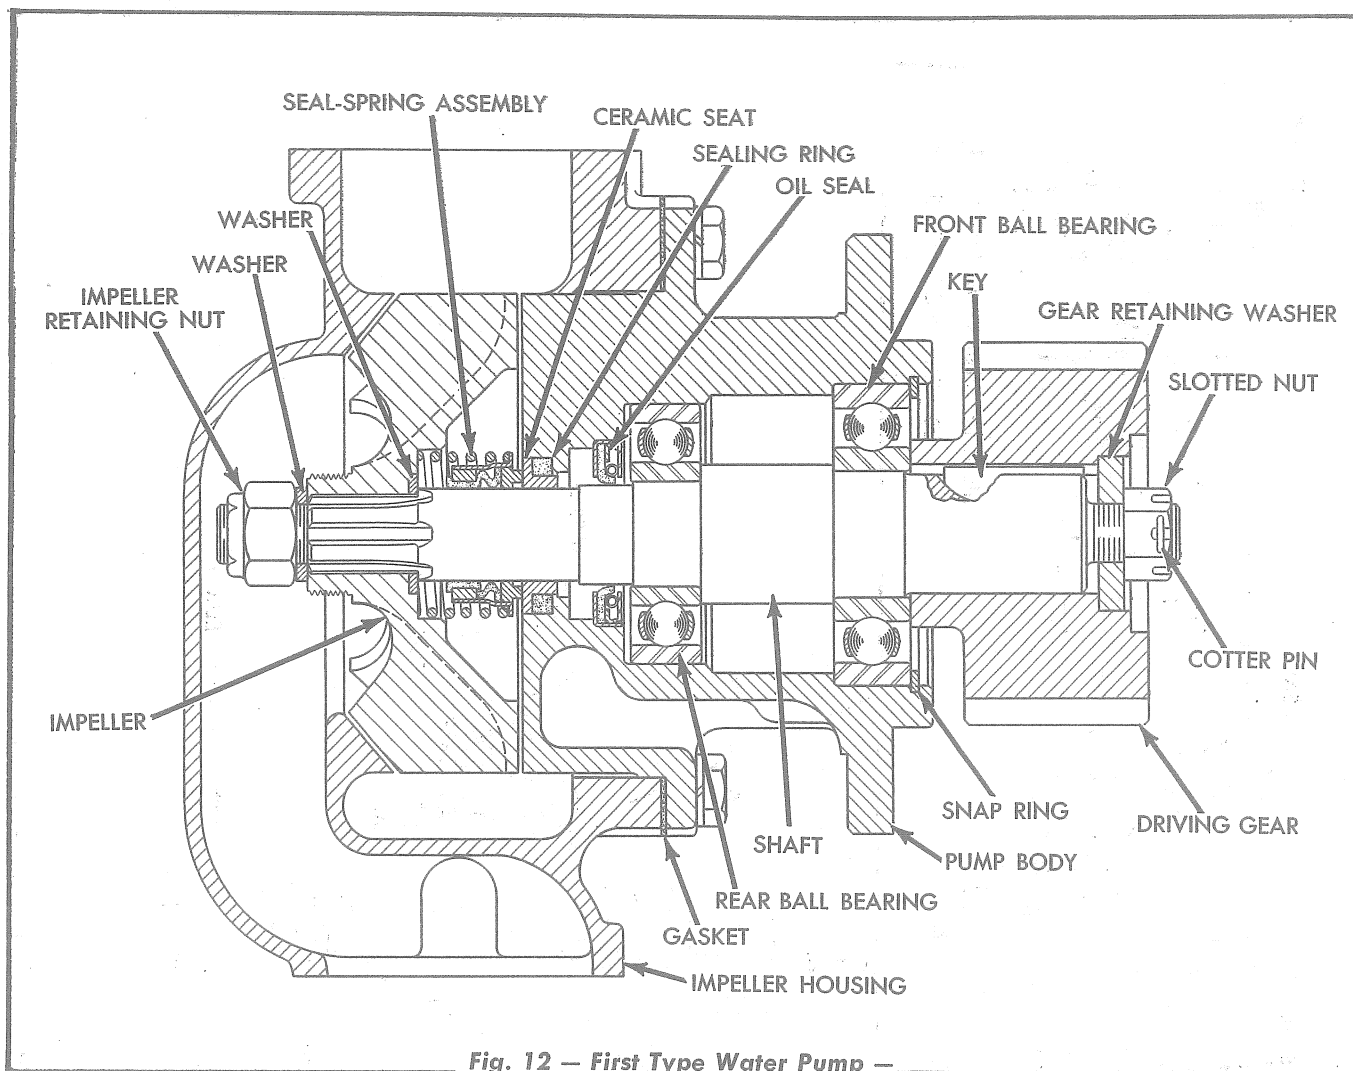

Fig. 12 — First Type Water Pump —
1. First Type Pump (Figs. 12 and 13)
c. Assembly (Figs. 12 and 13)
- (1) Using a suitable tool, install the oil seal in the pump body with the sealing lip of the seal directed toward the gear end of the pump. Lubricate the lip of the seal.
- (2) Press the front and rear ball bearings onto the shaft, making certain they are pressed tightly against the shoulders of the shaft. Lubricate the bearings and install the shaft, with bearings, in the pump body using care to prevent damage to the lip of the oil seal.
- (3) Install the bearing retaining snap ring in the groove in the front end of the pump body. Insert the key in the shaft and install the driving gear on the shaft. Install the gear retaining washer and slotted nut. Tighten the slotted nut securely and install the cotter pin.
- (4) Install the sealing ring and the ceramic seat in position on the shaft and in the pump body. Lubricate the sealing face of the seat with clean light oil.
- (5) Install the seal spring assembly on the shaft followed by the impeller washer and the impeller. *NOTE: When installing the seal spring assembly, make certain the parts are in their proper positions as shown in Fig. 12.* Install the impeller retaining washer and the impeller retaining nut. Tighten the nut securely.
- (6) Using a new gasket, install the impeller housing in position on the pump body and secure with capscrews and lockwashers.